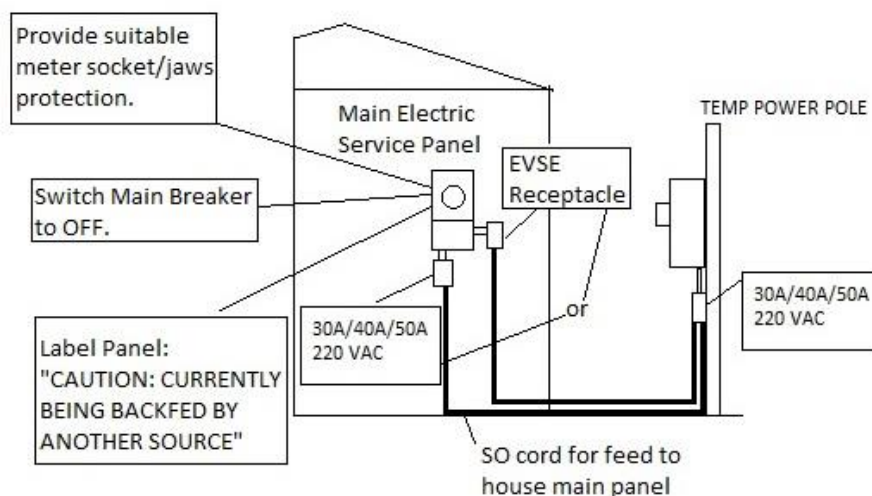

Figure CPA 003 – Feeding Structure from Temporary Power
- A 30A, 40A, or 50A receptacle is located at the main electrical panel (see Figure CPA 003)